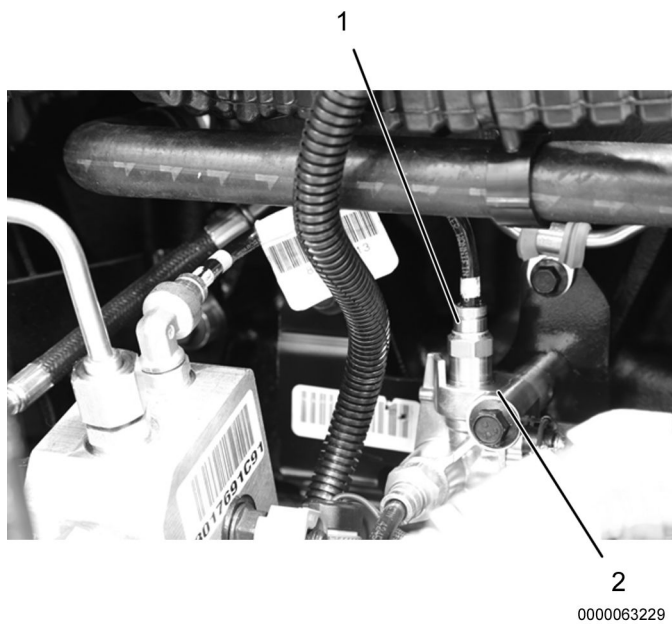

Figure 3. Aftertreatment Purge Air Valve Air Line.
11. Disconnect air line (Figure 3, Item 1) from aftertreatment purge air valve (Figure 3, Item 2) and install cap ZTSE4891.